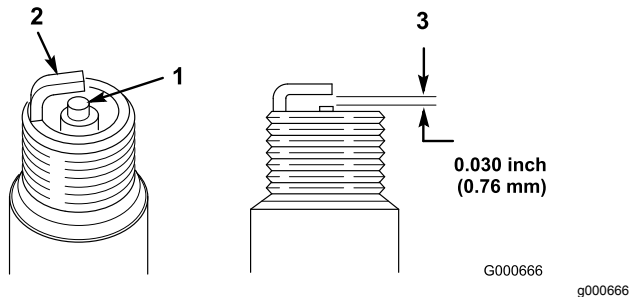

Figure 28
1. Look at the center of the spark plug (Figure 28). If you see light brown or gray on the insulator, the engine is operating properly. A black coating on the insulator usually means that the air cleaner is dirty.
2. Check the gap between the center and side electrodes (Figure 28) and bend the side electrode if the gap is not correct.